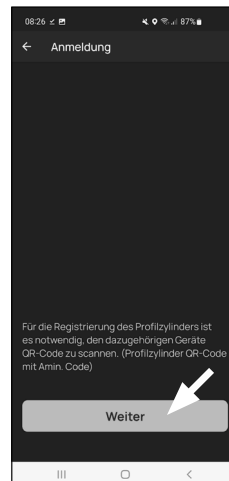

Fig. 4
- 4 Tap on "Next" (Fig. 4). You may be asked to confirm the app's access to the camera.
- 6 A message appears containing data regarding your cylinder; confirm this with "OK" at the bottom right (Fig. 4).